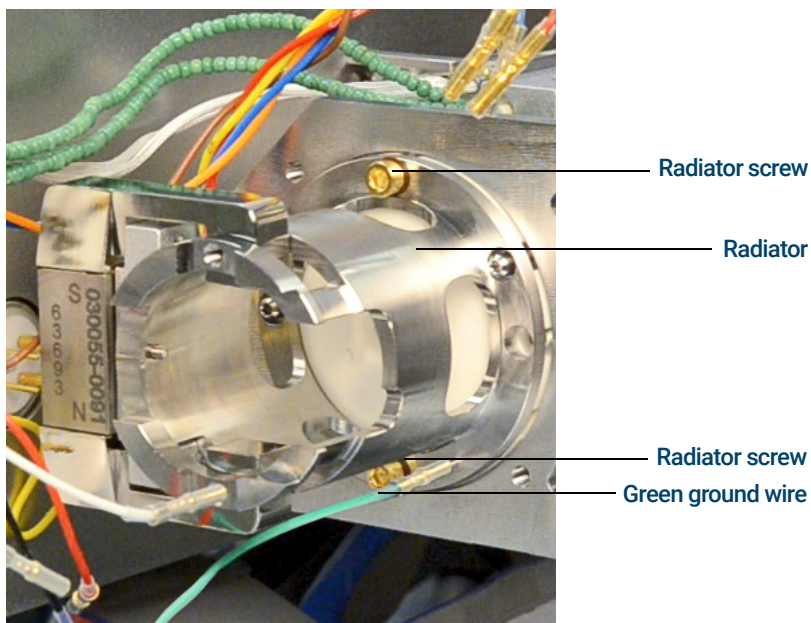

Figure 76. CI/EI XTR Source radiator
- 2 Disconnect the green ground wire from the radiator. (See **Figure 76**.)